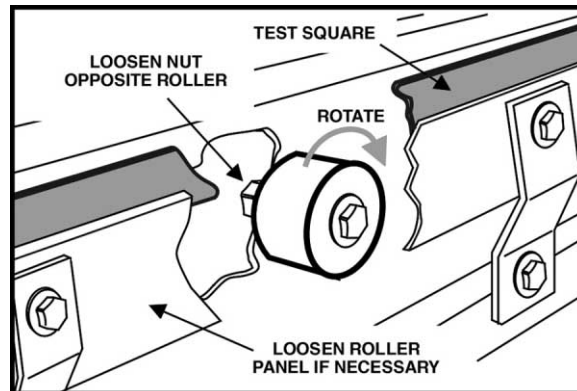

Figure 18
2. Turn each roller to ensure it does not jam or have excessive clearance from the straightedge. If this occurs, loosen the roller nut, shown in Figure 18.
3. The adjustable rollers have an eccentric hub. Turning the roller when the roller nut is loose changes the position of the roller. Turn the roller until it touches the straightedge, making sure the straightedge does not bend. NOTE: The roller panel may have to be loosened in order to turn the roller. See Figure 18.